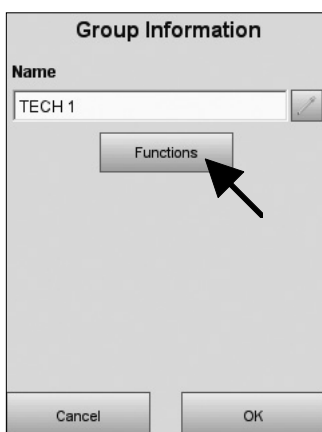

Fig. 3-54 Enter Group Name
3. In the subsequent screen (Fig. 3-54), press  and type a unique name for the user group. Press .
4. To assign group functions to a user group, press **<Functions>** (Fig. 3-54).